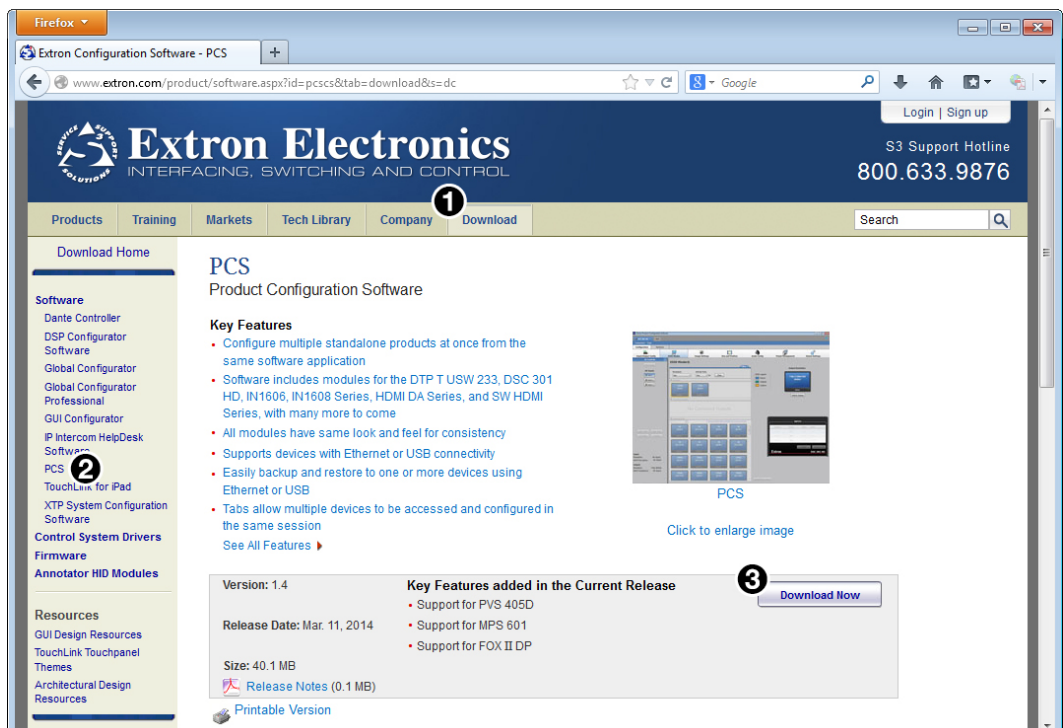

Figure 20. PCS Download from the Extron Website
1. On the Extron website, select the **Download** tab (see figure 20, ①).
2. From the left sidebar, click the **PCS** link (see figure 20, ②).
3. Click the **Download Now** button (see figure 20, ③).